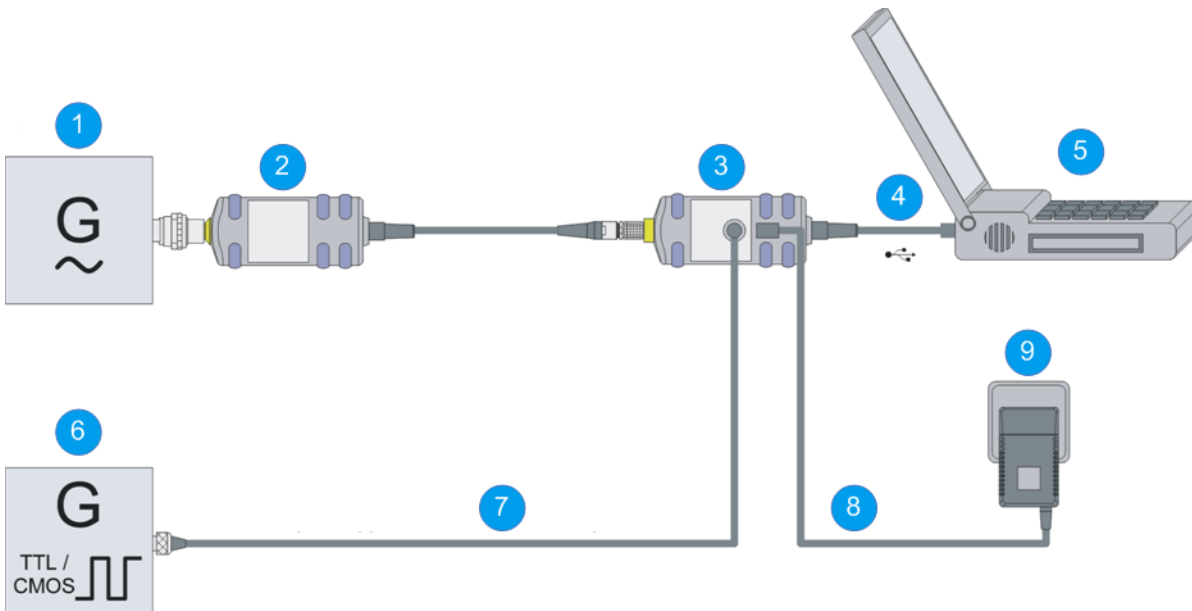

Fig. 4-3: Configuration with an active USB adapter
1. Connect the cables as shown in figure 4-3: